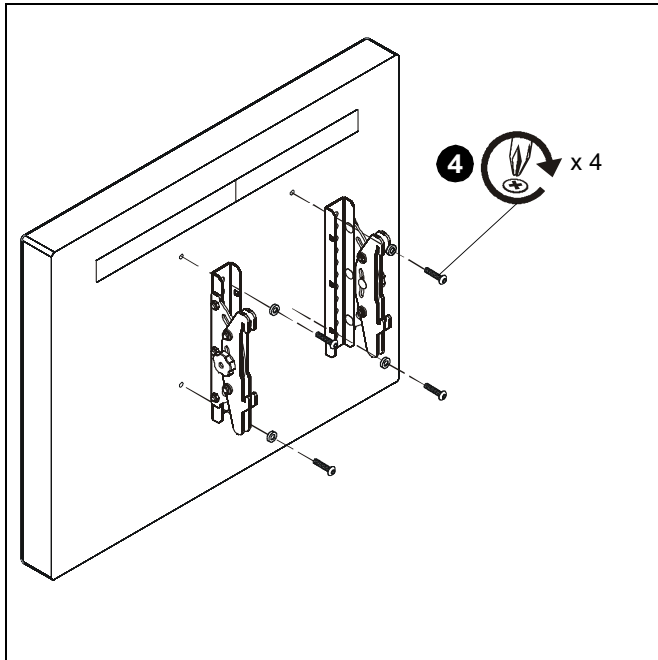

Figure 8
4. Use four removed screws and washers to secure interface brackets (B and C) to back of display. (See Figure 8)